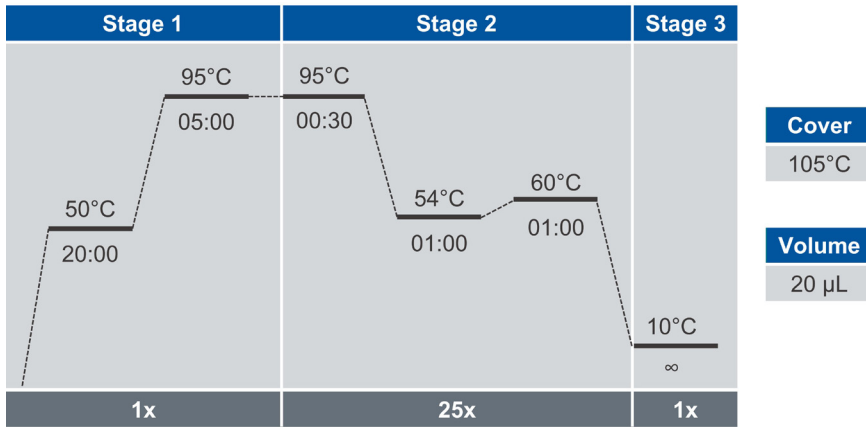

Figure 11. Olink PCR1 program
1. Start the PCR program *Olink PCR1* on the two ProFlex™ PCR instruments (Figure 11). Pause when the PCR block temperature reaches 50 °C.